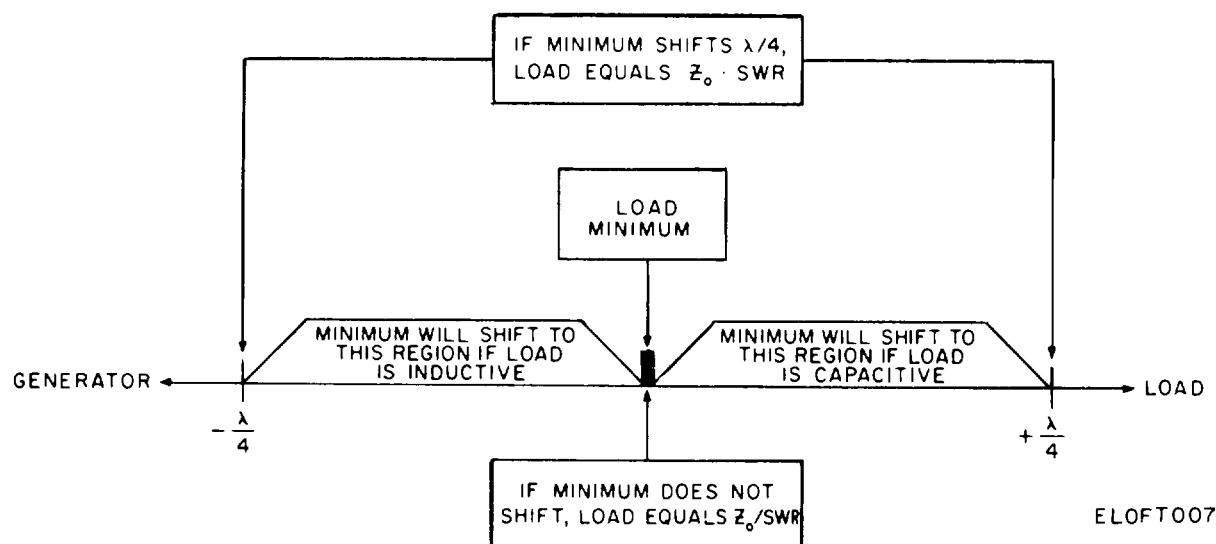

Figure 3-4. Summary of impedance measurement rules
*a. General.* Slotted line techniques provide information to allow calculation of a load impedance. The following rules apply to the indications given by the voltage minimum when the load is replaced by a short. Figure 3-4 summarizes and graphically presents these impedance measurement rules. When the load is replaced by a short, then:
(1) The shift in the minimum is never more than  $\pm 1/4$  wavelength.
(2) If the minimum moves toward the load, the load has a capacitive component.
(3) If the minimum moves toward the generator, the load has an inductive component.
(4) If the minimum does not move, the load is completely resistive and has a normalized value of  $1/SWR$ .
(5) If the minimum shifts exactly  $1/4$  wavelength, the load is completely resistive and has a normalized value equal to the SWR.
(6) The minimum will always be at a multiple of  $1/2$  wavelength from the load.